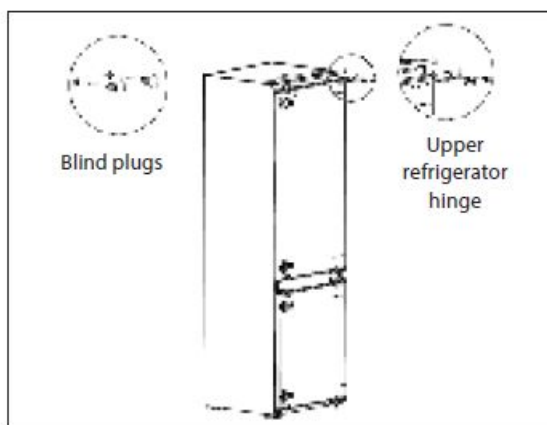

Fig. 3
1. Remove the blind plugs and the upper hinge of the refrigerator (Fig. 3) from the upper part of the appliance.